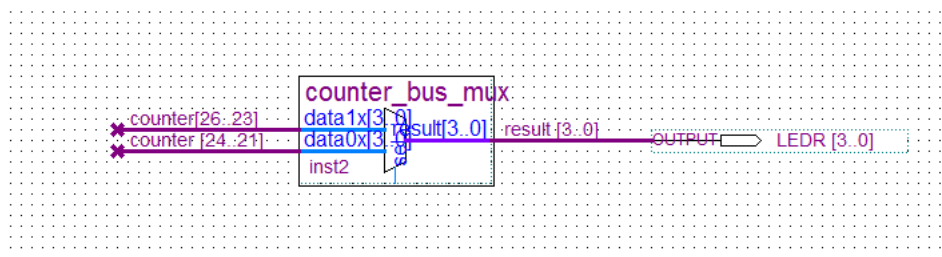

Figure 3-27 Rename the output pin
18. Rename the output pin as LEDR [3..0] as described in steps 13 c and d. (see **Figure 3-27**).